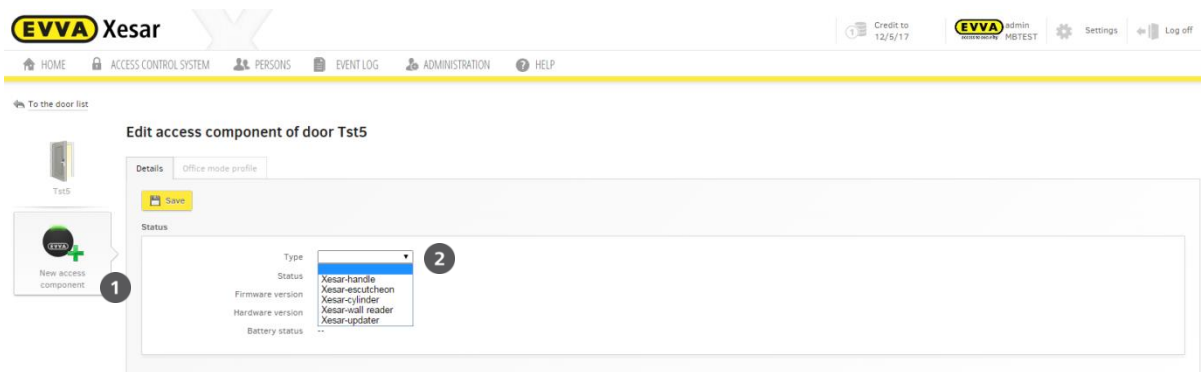

Figure 85: Assigning Xesar access components
- Click **New access component** to add a Xesar access component to your locking system (Figure 85: Assigning Xesar access components).
- In the **Xesar access component** application window you can now select the **Type 1** (Figure 85: Assigning Xesar access components) for your desired Xesar access component.